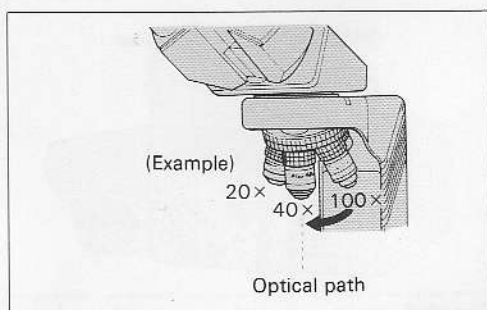

Fig.2-6
④ Mounting and Dismantling the Objectives
- Mount the objectives into the holes of the revolving nosepiece in such positions that, when viewed from above, their magnifying power increases as the nosepiece is revolved clockwise (Fig. 2-6).